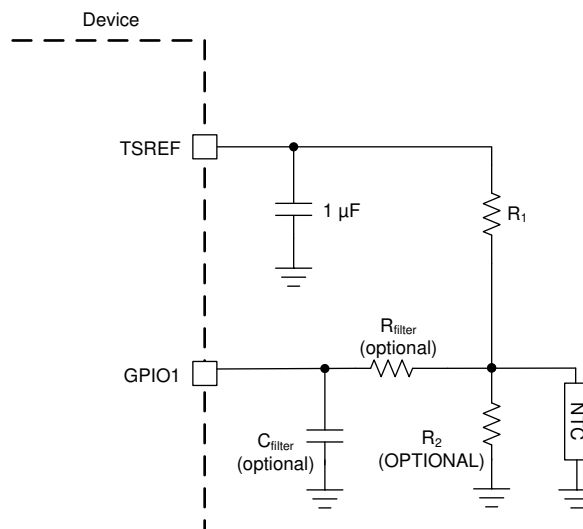

图 9-6. Thermistor Connection
Figure 9-6 shows the thermistor circuit when GPIO is enabled for thermistor measurements. MCU ensures TSREF is enabled by setting $CONTROL2[TSREF_EN] = 1$ and settled before taking the measurement value.
- $R1$ is the pull-up resistor as shown in Figure 9-6 with the assumption the $R2$ is not used